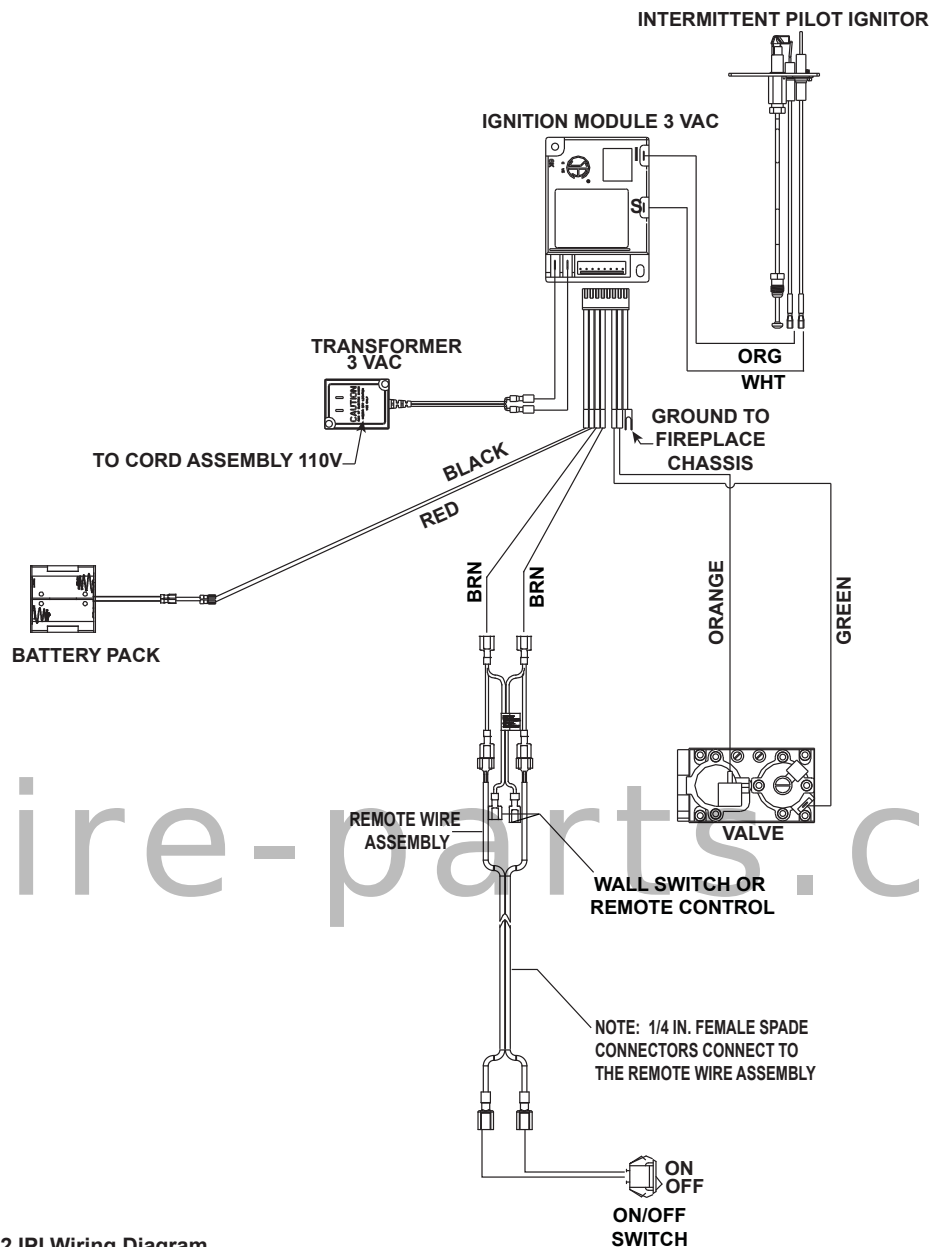

Figure 10.2 IPI Wiring Diagram
- Refer to Figure 10.2, IPI Wiring Diagram.